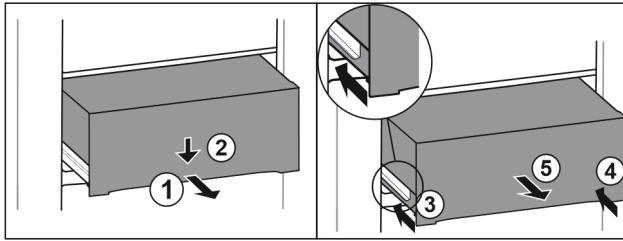

Fig. 108
- ▶ Pull out drawer half-way. Fig. 108 (1)
- ▶ Push the drawer down at the front. Fig. 108 (2)
- ▶ Push the left rail in by about 2 cm. Fig. 108 (3)
- ▶ Push the right rail in by about 2 cm. Fig. 108 (4)
- ▶ Remove drawer to the front. Fig. 108 (5)